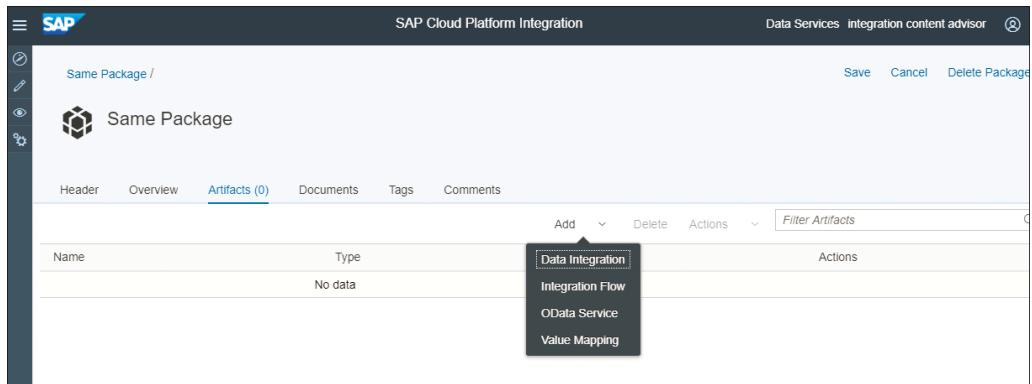

Figure 3.30 Adding Artifacts to an Integration Package
5. On the **Artifacts** tab, click **Add**, and choose an artifact of type **Data Integration**, **Process Integration**, **OData Service**, or **Value Mapping** to add it to the integration package (Figure 3.30).